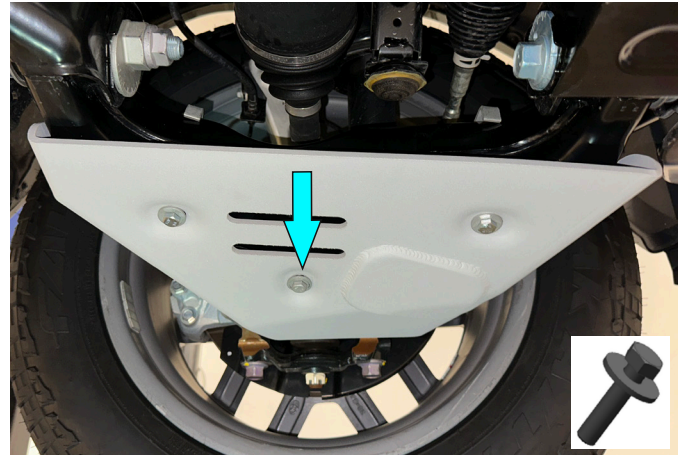

Fig. 2
2. Fix the left skid plate (item 1) using bolt M8x25 with washer 8, as shown in fig. 2.